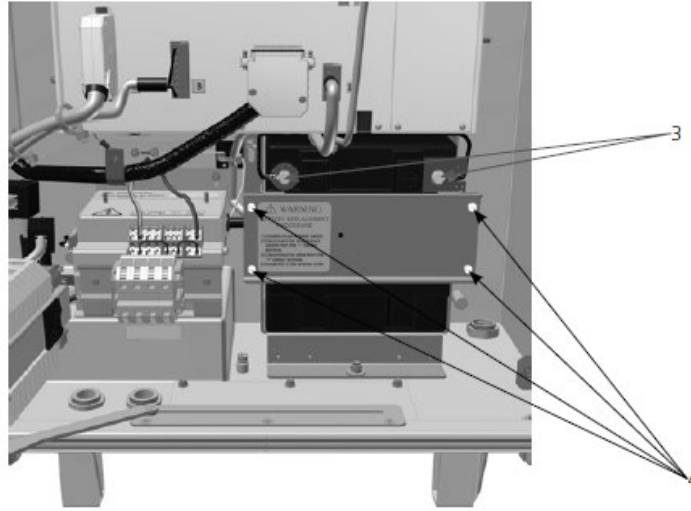

Figure 80
- 4) Unscrew four bolts from the battery fixing plate (Figure 80);
- 5) Install battery fixing plate and fix it with four bolts (Figure 80);